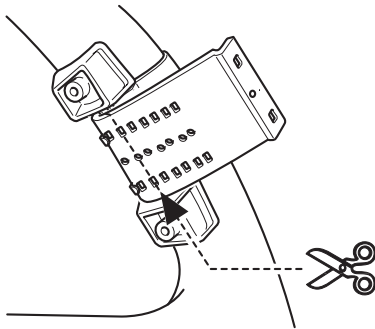

Fig. 8
2. Cut the extra portion of the belt at the center of the inner holder. (Fig. 8)